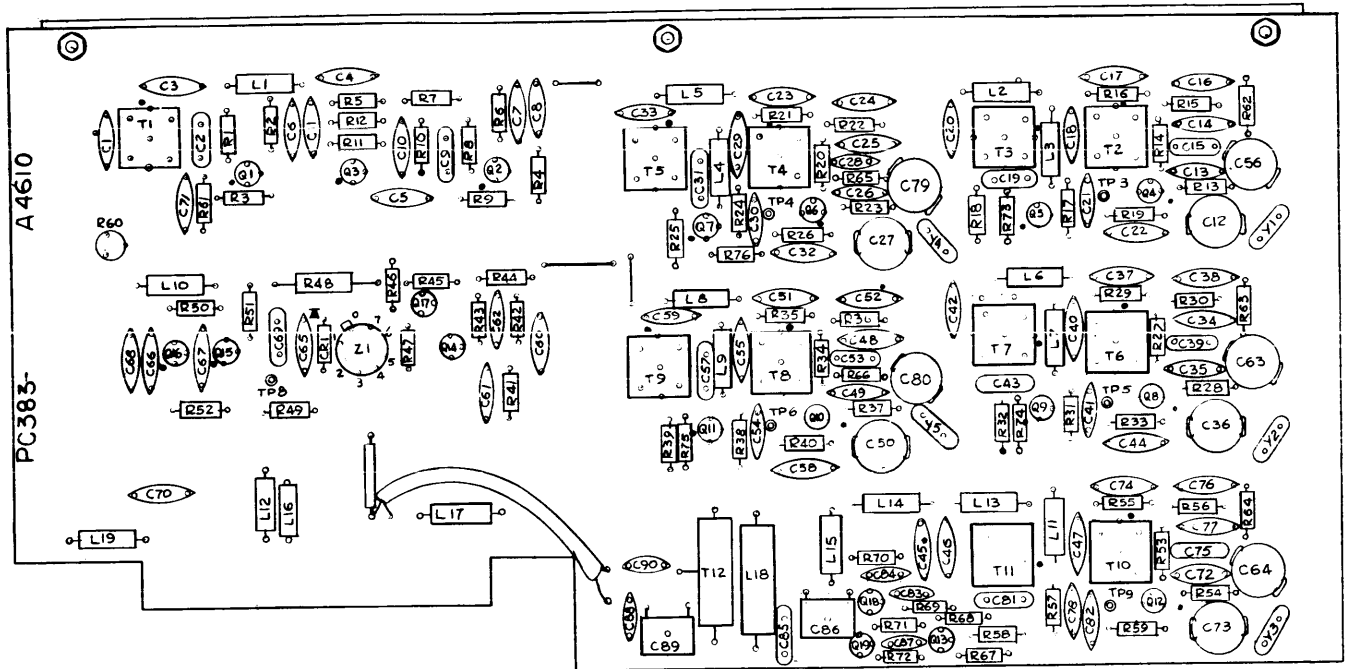

Figure 5-6. Spectrum Generator Z101, Board Component Locations
a. INTRODUCTION. Repair of the chassis-mounted power supply circuitry follows standard laboratory procedures. Repair of printed circuit cards and card receptacle wiring, however, require the special tools and techniques as outlined here. Section 6, Parts List, lists all replaceable parts and their circuit symbol numbers. These symbol numbers are shown on the schematics contained in Section 7 and located on figures 5-6 through 5-19.